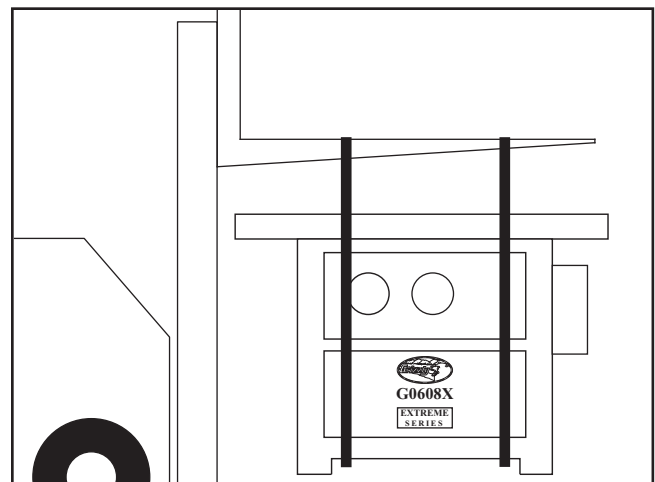

Figure 7. Location of lifting straps.
1. Position the lifting straps underneath and around the shaper as illustrated in **Figure 7**. Make sure the straps will not put destructive pressure on any controls, wires, or handles.